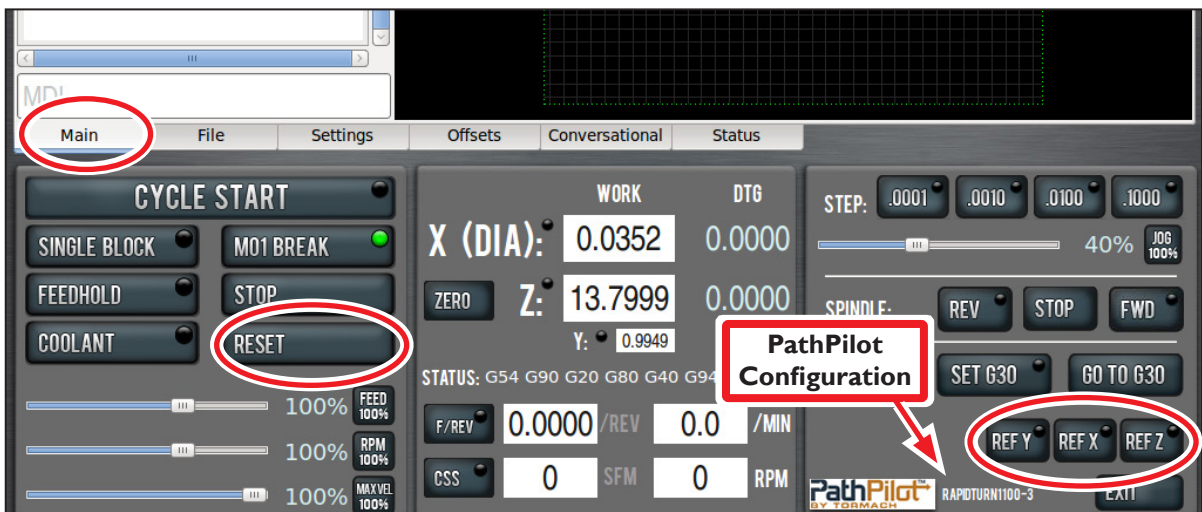

Figure 2.3
NOTE: The PathPilot machine configuration is listed on the bottom of the screen (see **Figure 2.3**). Refer to this before operating to confirm correct configuration is selected.
5. On *Main* tab, click flashing *Reset* button (see **Figure 2.3**).
6. Reference mill by clicking *REF X*, followed by *REF Y* and *REF Z* (see **Figure 2.3**).
1. Reset and reference mill, ensuring RapidTurn's PathPilot interface is selected (see **Figure 2.3**).